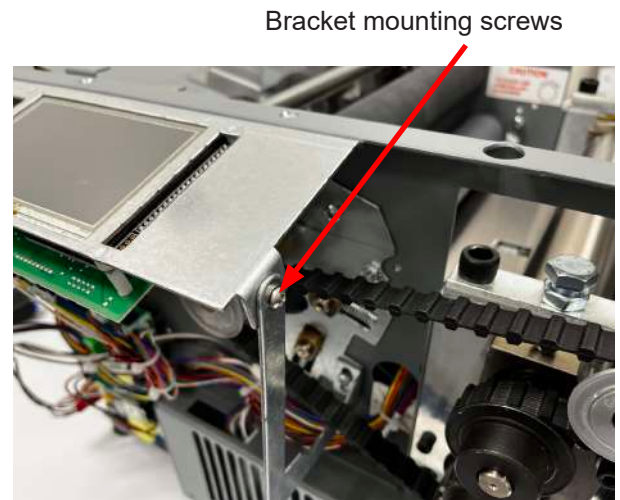

Fig. 55
2. Remove the side bracket mounting screws from either side of the Control Panel assembly (Fig. 55).